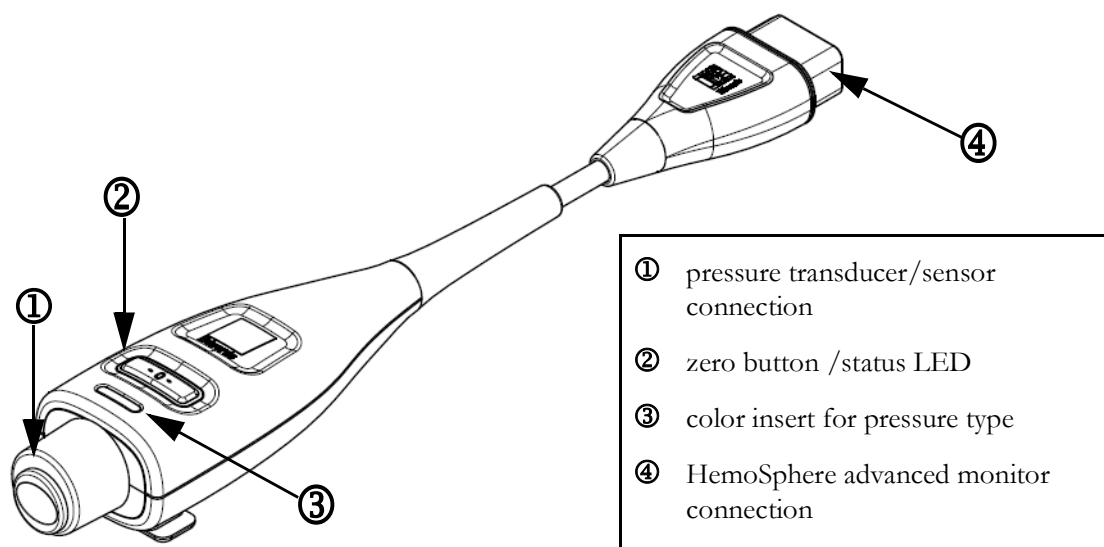

Figure 10-1 HemoSphere pressure cable
The HemoSphere pressure cable is a reusable device that connects with the HemoSphere monitor on one end ④ and any approved single Edwards disposable pressure transducer (DPT) or sensor on the other end ①. See figure 10-1 on page 156. The HemoSphere pressure cable acquires and processes a single pressure signal from a compatible Edwards DPT, such as the TruWave DPT, or a FloTrac sensor. A FloTrac or Acumen IQ sensor connects to an existing arterial catheter to provide minimally invasive hemodynamic parameters. A TruWave transducer can connect to any compatible pressure monitoring catheter to provide location based intravascular pressure. Refer to the directions for use provided with each catheter for specific instructions on catheter placement and use, and for relevant warnings, cautions and notes. The HemoSphere pressure cable can be monitored through two technology monitoring modes based on the paired sensor/transducer: **FloTrac** or **Acumen IQ** sensor monitoring mode or **Swan-Ganz** catheter monitoring mode. The monitoring mode appears on the top of the navigation bar (see figure 5-2 on page 76). The appearance and connection points for the HemoSphere pressure cable are shown in figure 10-1.
Pressure Type Color Insert. If desired, the appropriate color insert can be used on the pressure cable to indicate the monitored pressure type. See ③ in figure 10-1 below. The colors are as follows:
- Red for arterial pressure (AP)
- Green for cardiac output (CO)
- 7 Use a straight in or out motion to connect the green connector of the primed FloTrac sensor. The pressure cable LED that surrounds the zero button (see ② in figure 10-1) will flash green indicating that the pressure sensor is detected. A yellow light indicates a fault condition. If this occurs refer to the status bar for specific fault condition details.
Press the physical zero button  directly on the pressure cable and hold for three seconds (see figure 10-1).